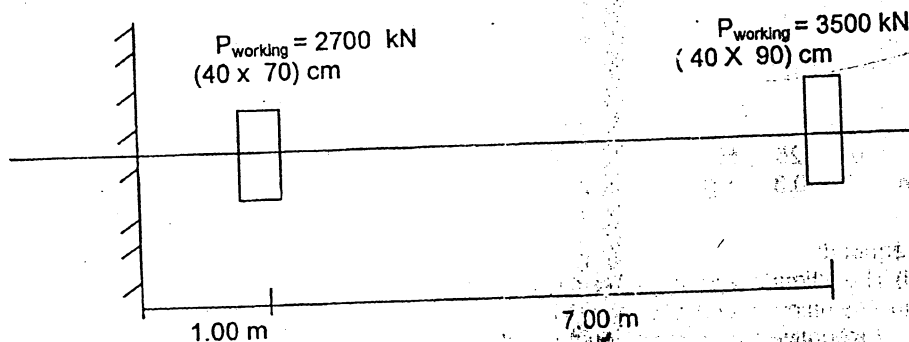

Figure 1
- 1.b. For the two columns shown in Figure 1, suggest a suitable type of shallow foundation. Explain the statical system and draw the concrete dimensions. Net allowable bearing capacity of soil is 120.0 kN/m². Without further calculations sketch the reinforcements arrangement